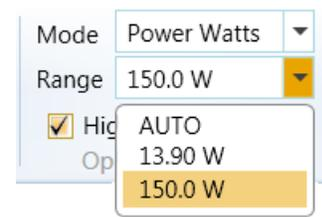

Figure 6-12. Settings for High-Speed Mode
3. **[Home tab]** Click the **Range** drop-down menu shown in Figure 6-12, and select one option from the list: